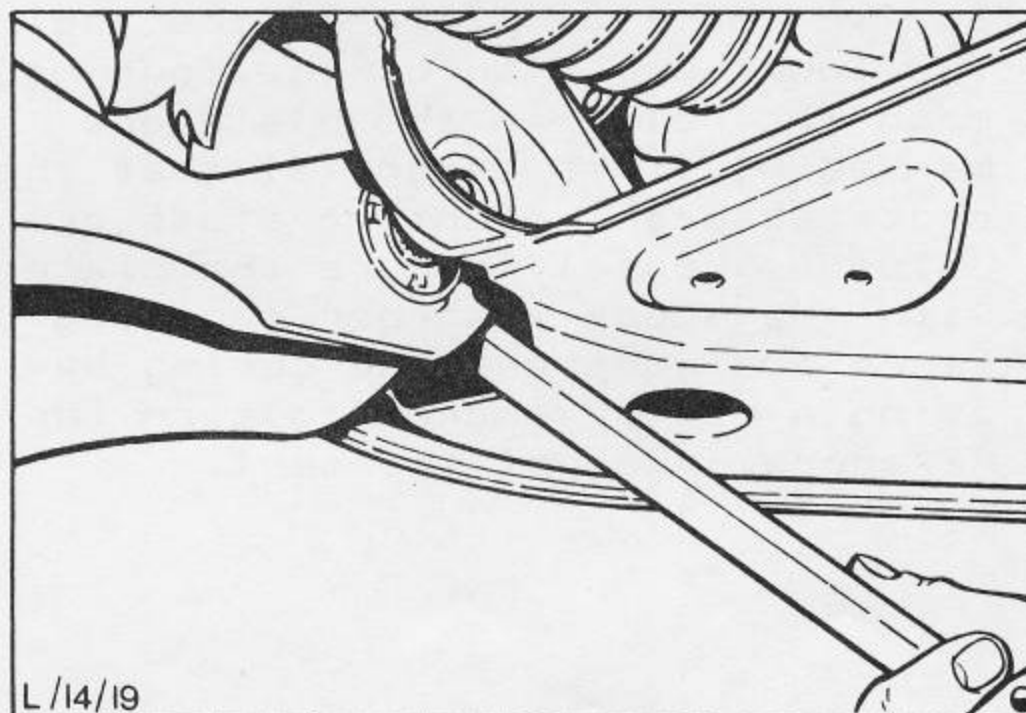

Fig. 32 Prising out lower arm.
9. Remove lower arm pivot split pin, nut and washer that retain bolt to chassis. Drift bolt from its arm/chassis position and lever arm from chassis. Fig.32